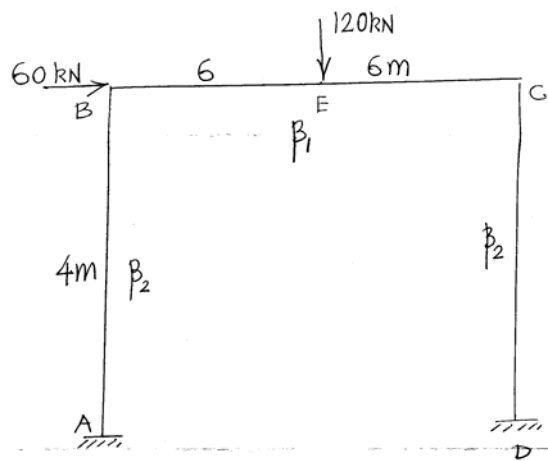

Fig 2
3. Find the values of β_1 and β_2 for the minimum weight design for the frame shown in figure 2. Loads acting are ultimate loads.